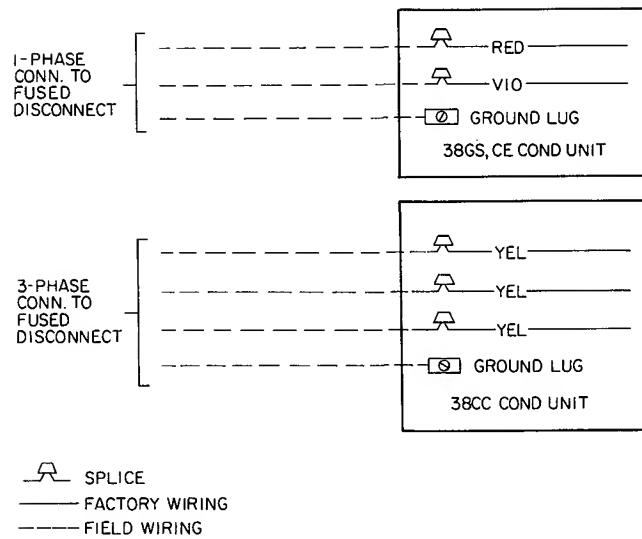

Fig. 3 – Line Power Connections
**Connect Ground Lead to a Ground Lug in Control Box** for safety. Connect power wiring. See Fig. 3. Splice line power leads to red and violet pigtailed on 38GS,CE units or to yellow pigtailed (3) on 38CC units. Use wire nuts supplied with unit. Tape each connection. Wire nuts are suitable for copper or aluminum wire since they contain joint compound.